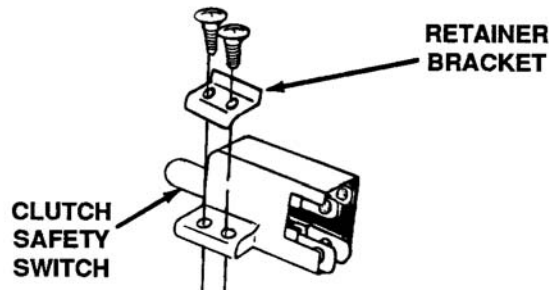

Figure 3-5. Retainer Bracket
- The clutch safety switch has a retainer bracket for added support. This will retrofit 1990 production units. See Figure 3-5.